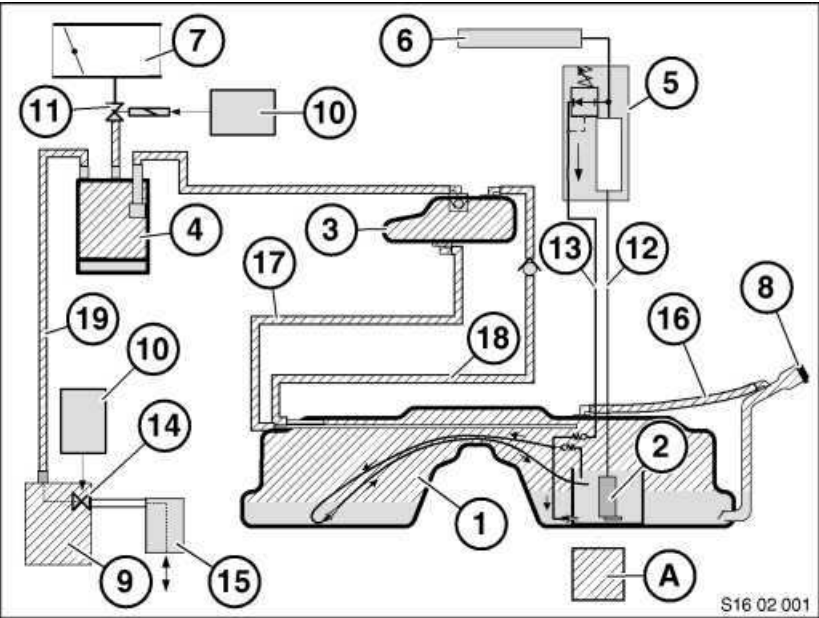

Figure 1: Block diagram of leak check
Fig. 1 shows the components of the fuel supply system, to which pressure is applied.
- The internal solenoid valve in the DMTL (14, Fig. 1) closes the line to the atmosphere